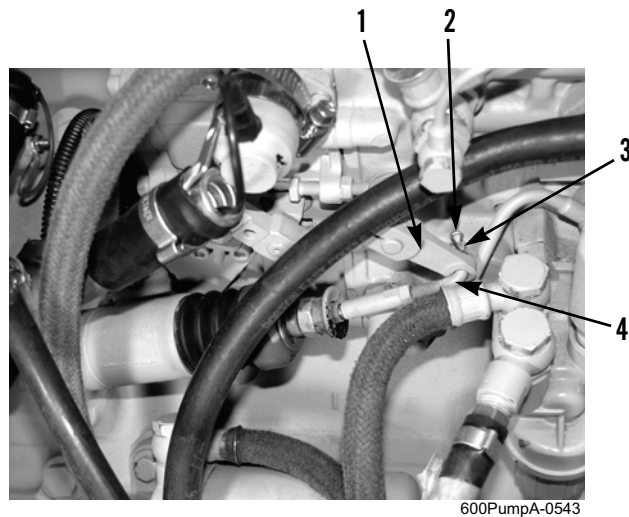

Figure 1. Solenoid Linkage.
1. Remove pin (Figure 1, Item 2), washer (Figure 1, Item 3), and rod (Figure 1, Item 4) from fuel injection pump arm (Figure 1, Item 1). Discard pin.
6. Install rod (Figure 1, Item 4) on fuel injection pump arm (Figure 1, Item 1) with washer (Figure 1, Item 3) and new pin (Figure 1, Item 2).